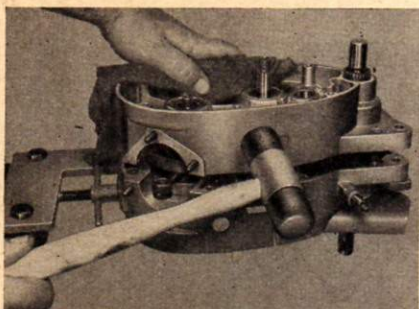

Fig. 30 Taking off the heated right hand half-member from the crankcase VI / 57 / 880
3. Draw the two halves of the crankcase apart. A light tap with a rubber tipped hammer will be sufficient to separate the half-members (see fig. 30). The pedal shaft must be left in position in the left hand half-member of the crankcase.